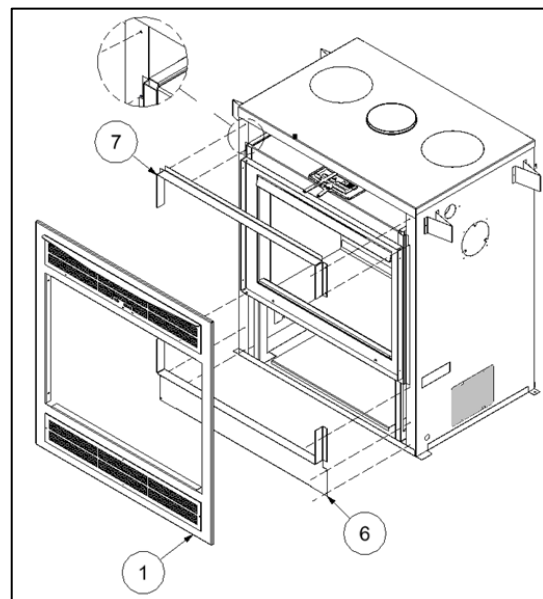

Figure 3-13: Traditional Surround Installation
2. Align the lower support bracket (Item 6) to the intake opening and fasten it in place (Figure 3-13).
3. Bend the ends of the upper support bracket (Item 7), align it to the outtake opening and fasten it in place (Figure 3-13).